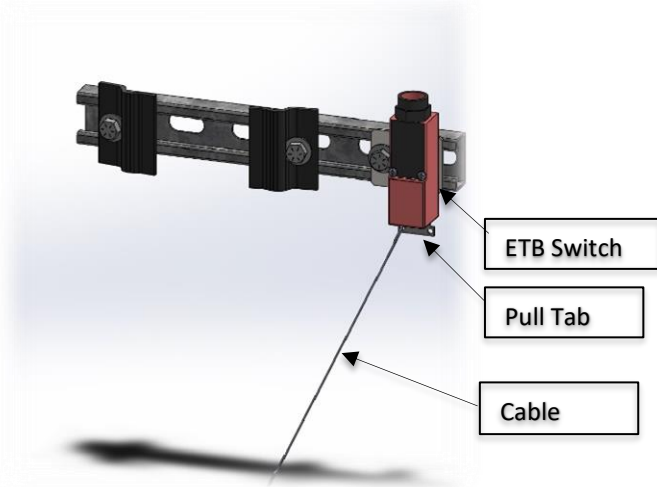

Figure 20: Emergency Tape Break Switch
- Attach bracket and switch to Unistrut as shown in figure 20.